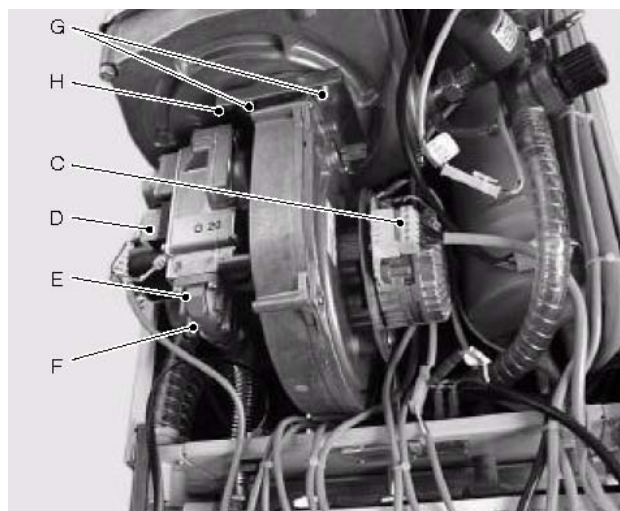

Fig 9
- 4 Disconnect the wirings from the fan C and gas valve D (fig 9).